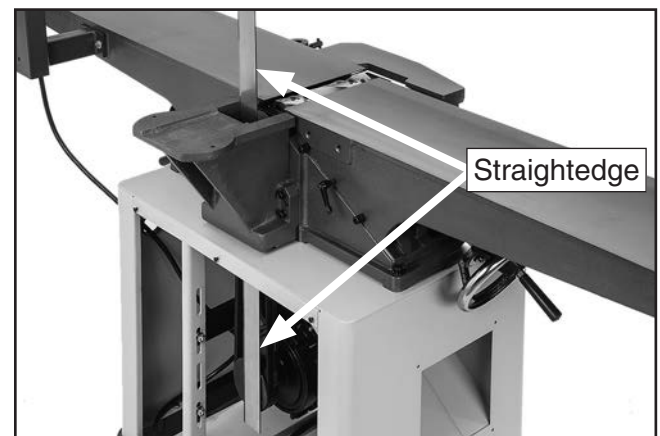

Figure 14. Checking belt alignment.
4. Place straightedge against pulleys to check their alignment (see **Figures 14–15**).